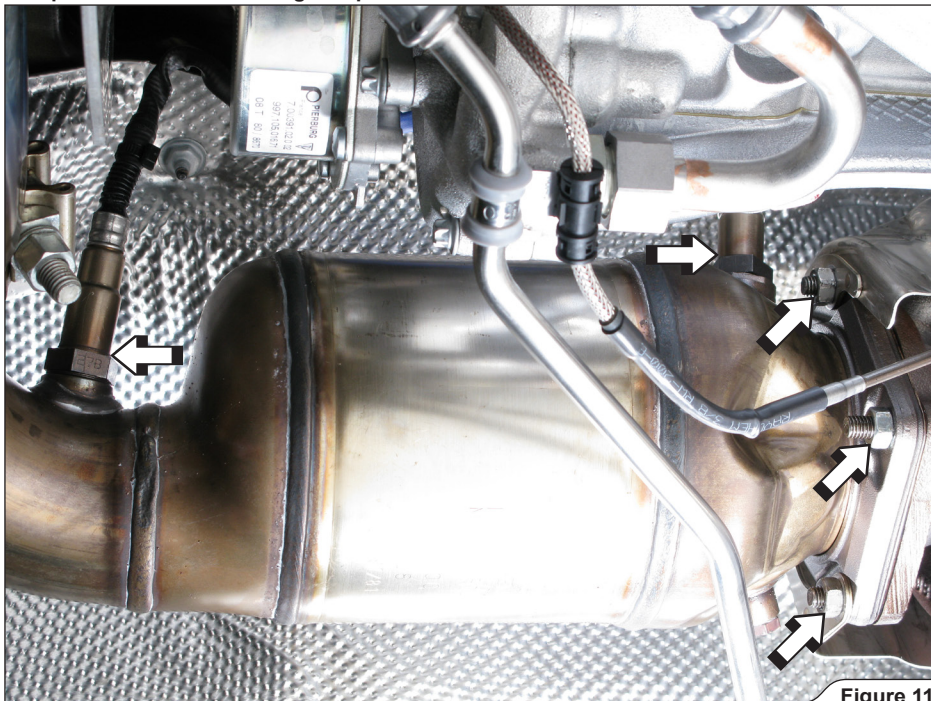
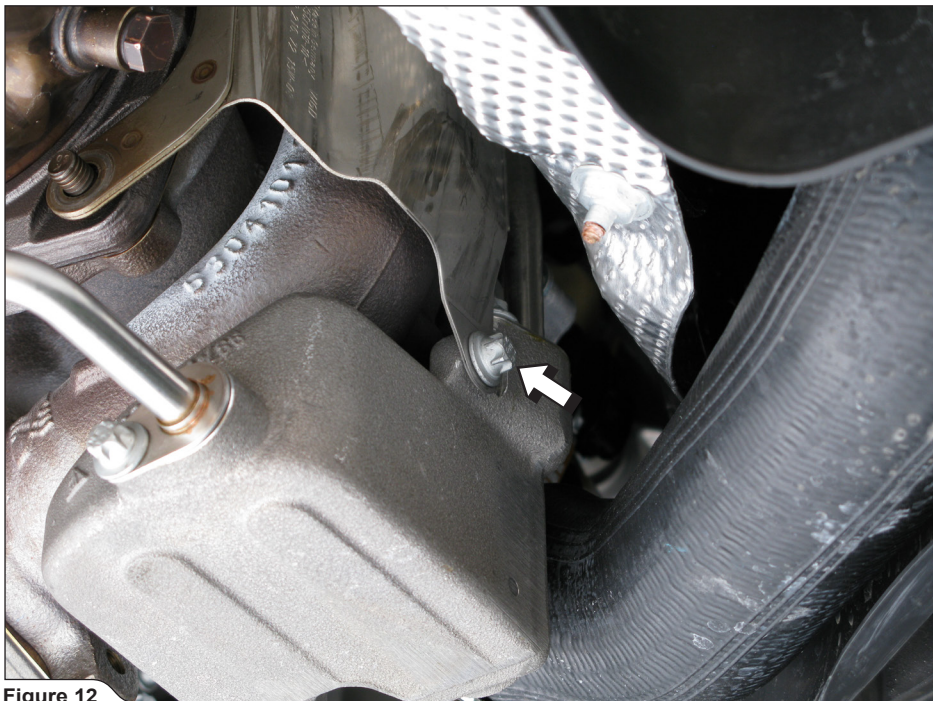

Figure 11
Figure 12
8. **For Slip-On Race, Evolution Race and Upgrade Kit1/2:** unscrew the lambda sensors and all nuts of the stock link-pipes on both sides of the vehicle (**Figure 11**). Unscrew the M6 bolts of both turbo heatshields and partially remove the heatshield (**Figure 12**). Remove both stock link-pipes off the vehicle.